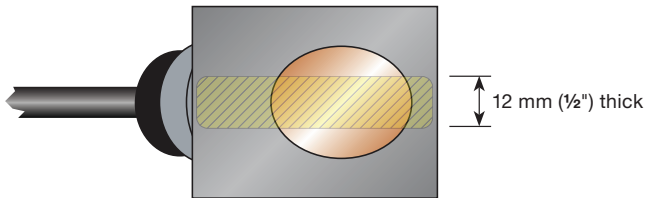

**Fig. 21 Z-mount transducer placement**
- 7) Place the downstream transducer on the pipe at the calculated transducer spacing. See *Fig. 21*. Using firm hand pressure, slowly move the transducer both towards and away from the upstream transducer while observing signal strength. Clamp the transducer at the position where the highest signal strength is observed. Signal strength of between 5 and 98 is acceptable. The factory default signal strength setting is 5, however there are many application specific conditions that may prevent the signal strength from attaining this level.